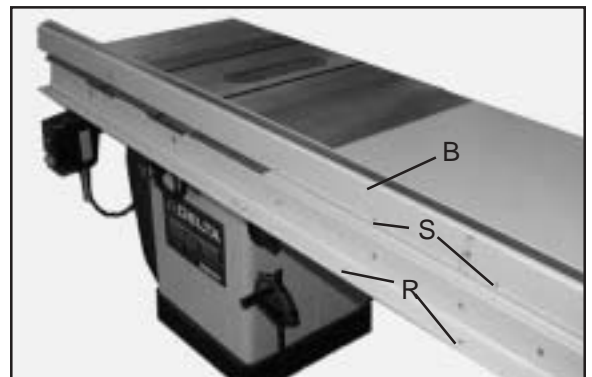

Fig. 14
11. Lay the guide tube (B) Fig. 14, on the saw table as shown, and line up the threaded holes (S) on the bottom of guide tube with the through holes (T) on the front rail. **NOTE: The guide tube should extend past the rail 6" on each end.**
12. Position the guide tube (B) on the front rail and fasten the guide tube to the rail using the 1/4-20 x 1/2" long hex head screws and lock washers. **NOTE:** Where there are two holes 2-1/2" apart, use only the left hole.